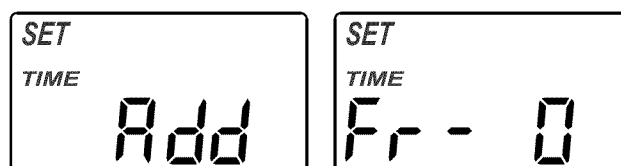

Figure 30
4. Press SELECT to display the alternating screens shown in Figure 30.